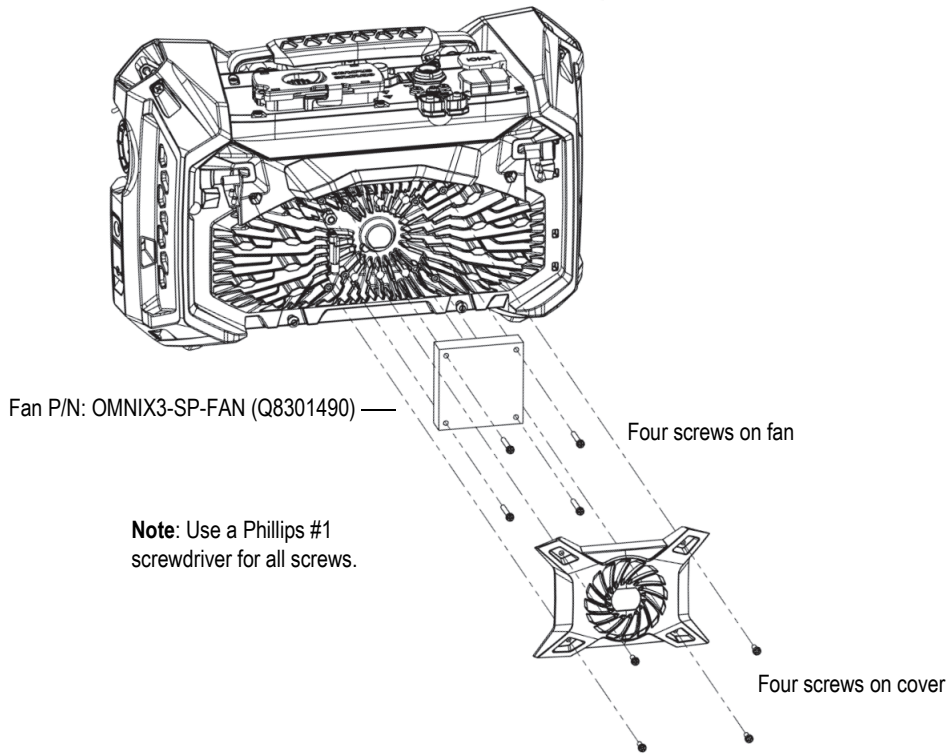

Figure 4-2 Assembly of fan and cover parts
2. If it is difficult to clean from the exterior of the enclosure or if the fan appears to need servicing, remove the fan cover—and, if necessary, the fan—and carefully clean the part surfaces as required (see Figure 4-2 on page 52).